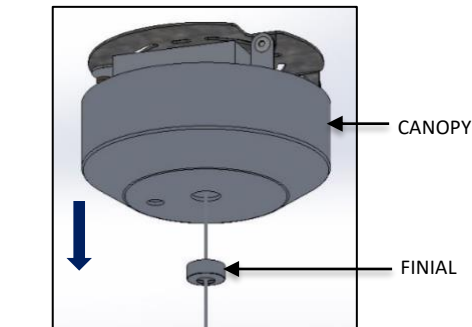

FIG. 10 – CANOPY DIS-ASSEMBLY
1. Unscrew CANOPY FINIAL and remove CANOPY. Be careful not to scratch finish as shown in FIG. 10.